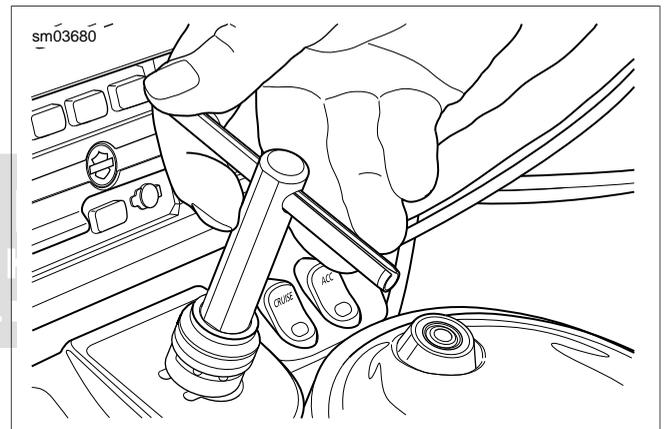

Figure 8-62. Bottom Alignment Tool in Threaded Post and Rotate to Desired Position
After removal of the knob, the IGNITION SWITCH ALIGNMENT TOOL (Part No. HD-45962) may be used to move the switch to other positions as required. Insert tool until bottom of handle contacts top of threaded post, and then rotate handle in a clockwise direction to the selected position. See Figure 8-62.
- a. Insert alignment tool until bottom of handle contacts top of threaded post, and holding front forks at the left fork stop, rotate handle of tool in a counter-clockwise direction until fork locks. See Figure 8-62.